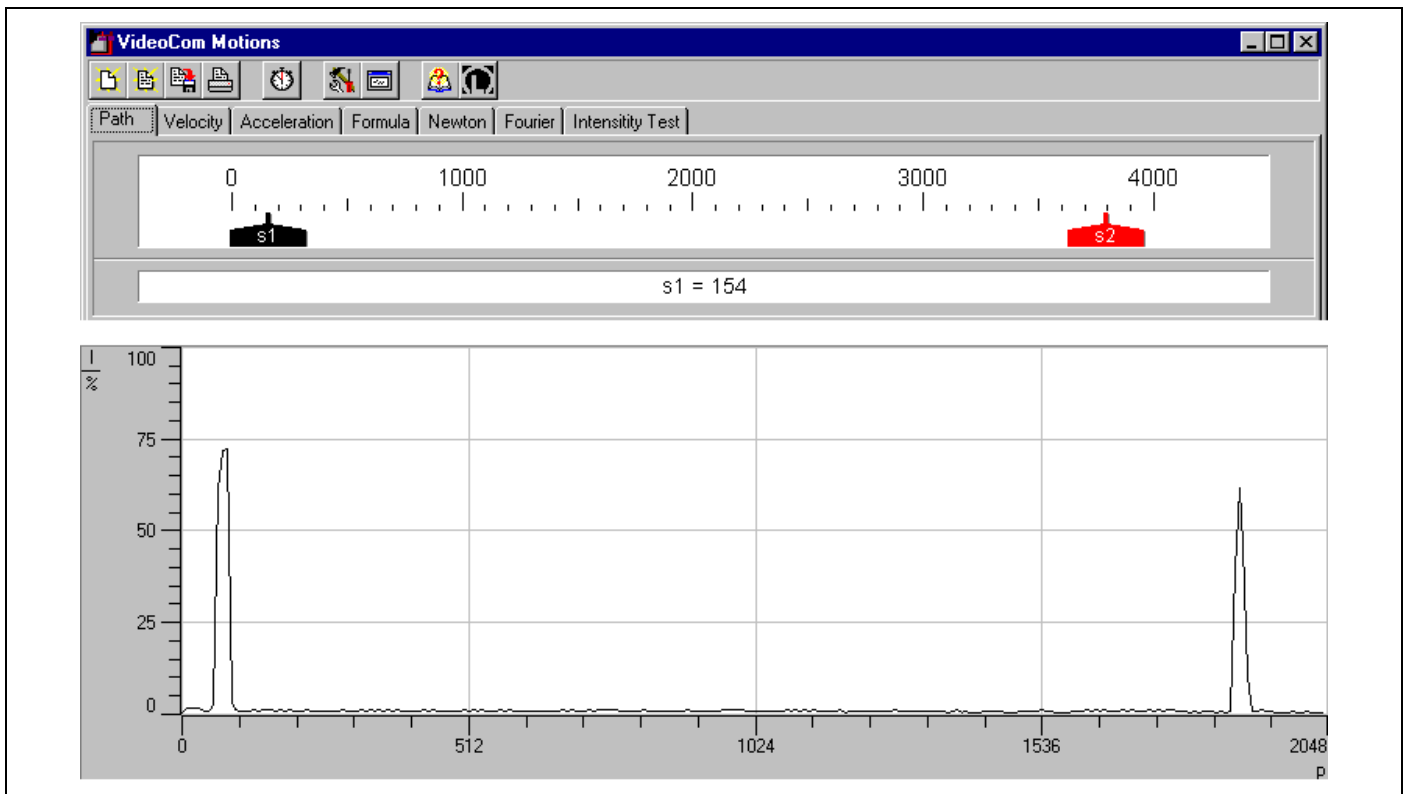

Fig. 5
The self-adhesive retroreflecting foil reflects incident light precisely into itself (triple-mirror principle). VideoCom distinguishes this reflection from the background by measuring its intensity and uses it to determine the position of the foil (see Fig. 5). The screwed-on LED flash is critical as a light source. The foil reflects the light back to precisely this point.
- Set the height so that at least one reflection is indicated in display ⑦.
- Finally, both reflections should be clearly indicated at the left and right edges of the LC display ⑦ (see Fig. 5), so that even a slight variation of the adjustment cannot affect this.
If it is not possible to adjust VideoCom because too few or too many reflections are detected (e.g. due to unfavorable lighting conditions), the software for evaluating motions allows you to display the measured intensities (intensity test). A typical intensity distribution shows a peak of at least 25% amplitude as well as max. 10 % background for each reflection (see Fig. 5).